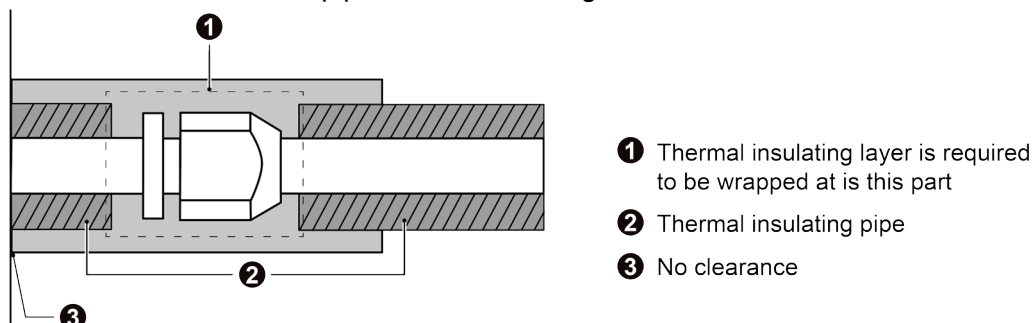

Fig. 3.4.10
- 2) Joints at indoor and outdoor units should be wrapped with insulating material and leave no clearance between pipe and wall. See Fig. 3.4.10.